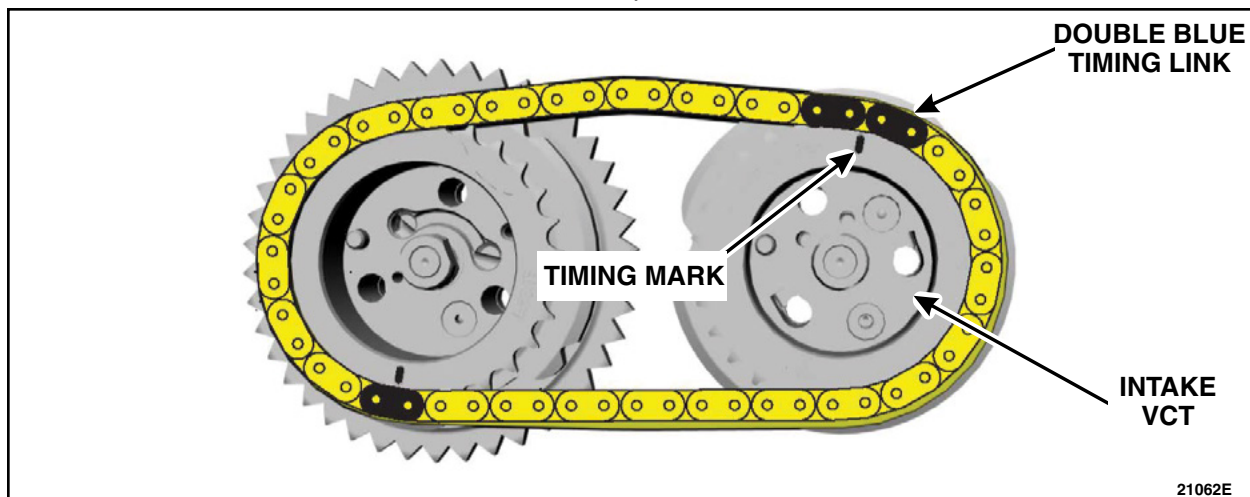

FIGURE 6
3. Check the timing on both the RH and LH secondary timing chain. Is the intake VCT timing mark between the double blue timing link? See Figure 6.